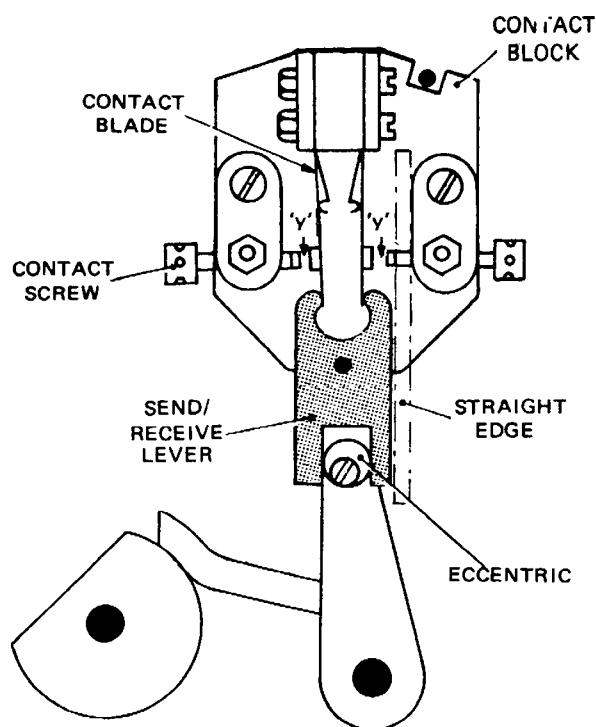

Fig. 4.28 SEND/RECEIVE SWITCH
- 29.1 Depress the RUN OUT key and turn the camshaft 90–180 degrees from the rest position to the position shown in Fig. 4.28, and check that the sides of the send/receive lever are parallel to the sides of the contact block. Use a straight edge or an 8BA spanner.